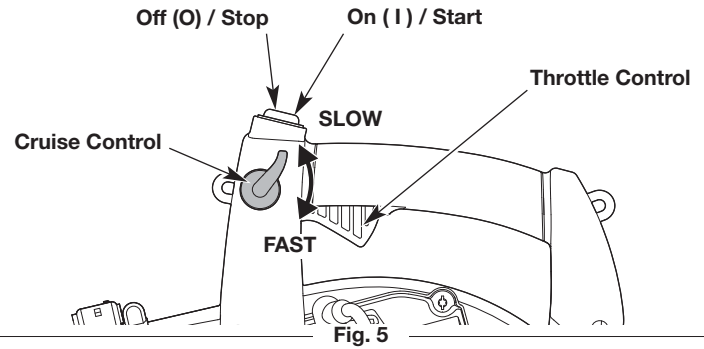
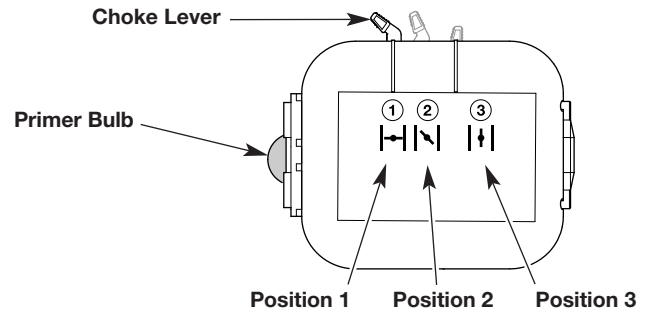

Fig. 5
Fig. 6
- NOTE:** There is no need to turn the unit on. The On/Off switch is in the ON (1) position at all times (Fig. 5).
3. Slowly press and release the primer bulb **10 times** (Fig. 6). If fuel cannot be seen in the primer bulb, press and release the primer bulb until fuel is visible.
4. Move the choke lever to **Position 1** (Fig. 6).
5. Move the cruise control to the SLOW position (Fig. 5).
- NOTE:** Keep the cruise control in the SLOW position and **DO NOT** squeeze the throttle control until step 10 (Fig. 5).
8. **DO NOT** squeeze the throttle control. Move the choke lever to **Position 2** (Fig. 6).
10. Squeeze and hold the throttle control or move the cruise control to the FAST position (Fig. 5). Allow the engine to warm up for 30 to 60 seconds.
11. Continue to squeeze the throttle control or keep the cruise control in the FAST position (Fig. 5). Move the choke lever to **Position 3** (Fig. 6) and continue warming the engine for an additional 60 seconds. The unit may be used during this time.
IF... the engine hesitates, return the choke lever to **Position 2** (Fig. 6) and continue the warm-up.
2. Press and hold the On/Off switch in the OFF (O) position until the engine comes to a complete stop (Fig. 5).
- Use the cruise control to make continuous operation easier (Fig. 5).